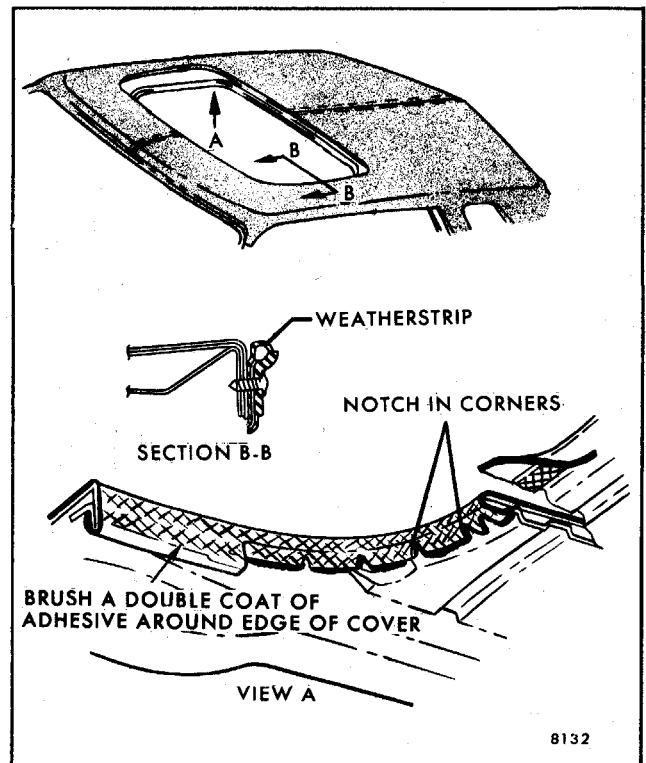

Fig. 8-36-Fabric Roof Cover Installation - Sun Roof Option
19. On sun roof (Fig. 8-36) or vista vent option, trim and cement cover in roof opening. Also, on sun roof option, replace previously removed tape along rear of opening.